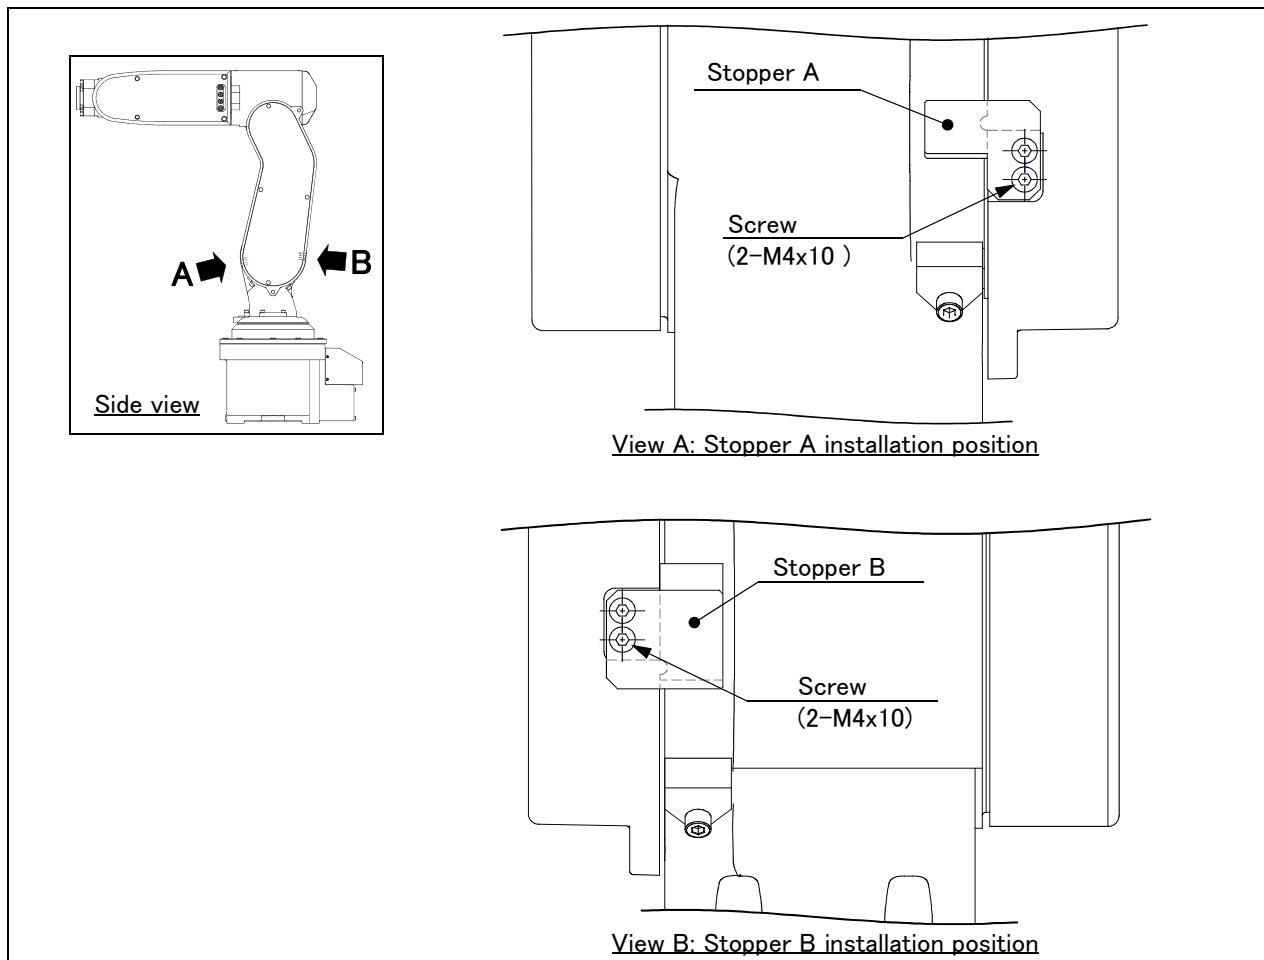

Fig.3-2 : Installation procedure of optional stoppers
The changeable angle of J2 axis is shown in Table 3-4. Refer to Table 3-4 to confirm the installation position of the stopper corresponding to the angle to change or setting value of a parameter. Refer to Fig. 3-2 for details of the installation position of the stoppers.
- 2) Refer to Fig. 3-2 and install the required stopper to the installation position. Tighten screws firmly to fix the stopper. (Tightening torque: 4.6 Nm)
(4) Setting the parameter